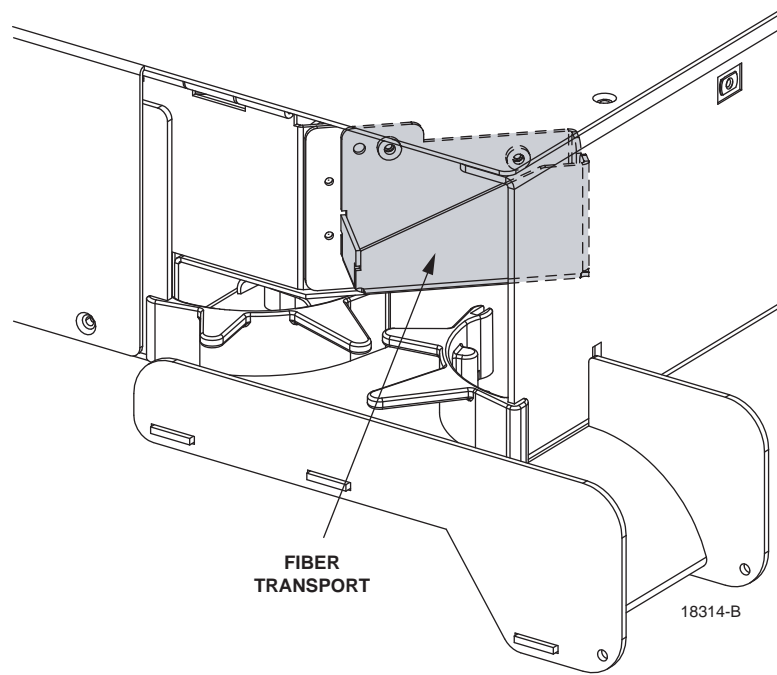

Figure 43. Fiber Transport
3. Locate the fiber transport on the rear of the panel as shown in Figure 43.